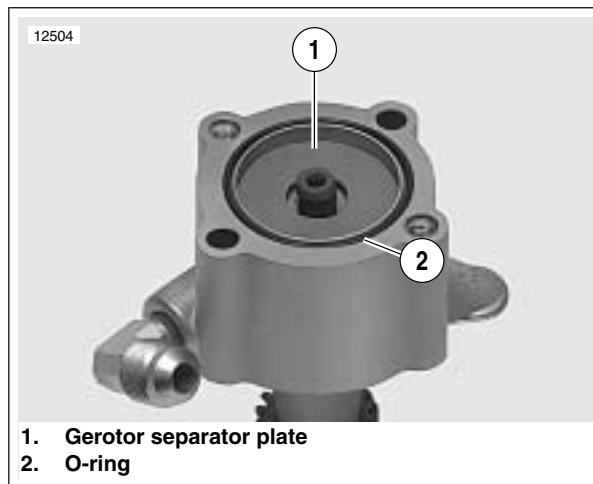

Figure 3-121. Oil Pump Separator Plate
4. See Figure 3-121. Install gerotor separator plate.